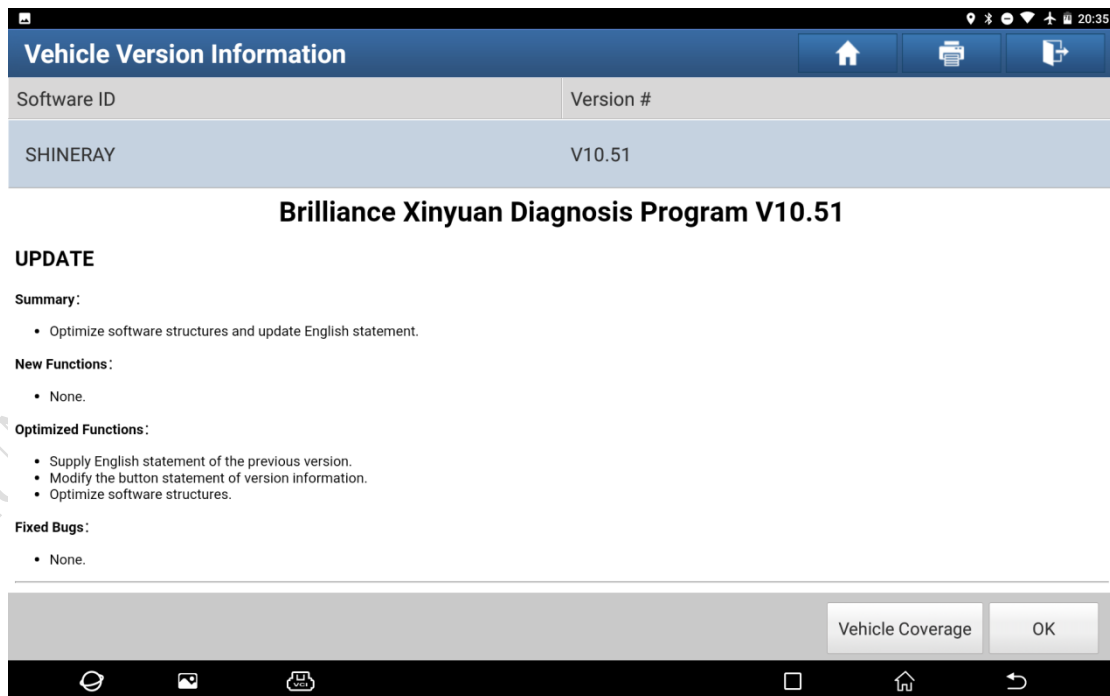

Figure 1
1. After selecting the model, enter the specific version interface of the model software, and click [OK] to continue, as shown in Figure 1.